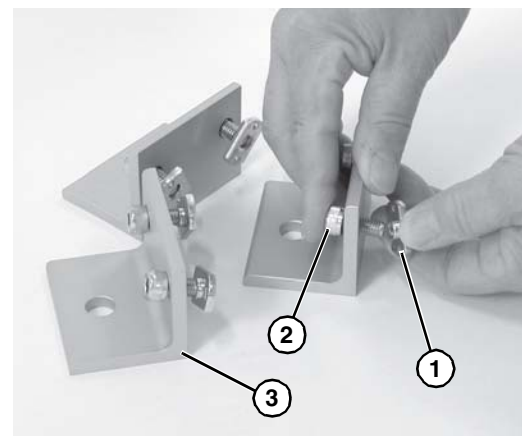

Figure 11
- Place two socket screws (**Figure 11, item 1**) and nuts (**Figure 11, item 2**) on the three stand foot brackets (**Figure 11, item 3**). Do not tighten.